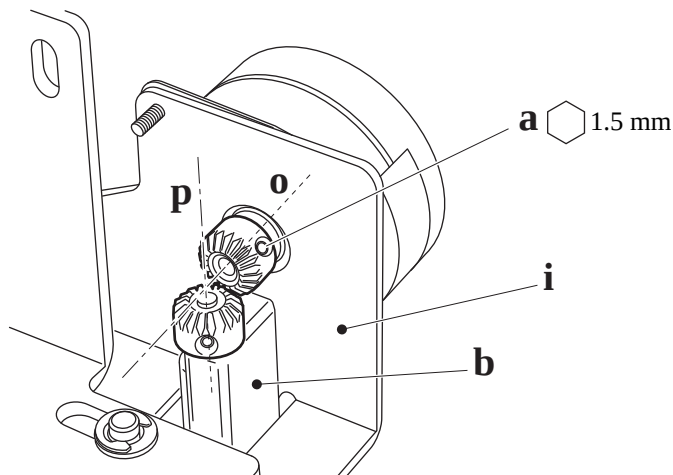
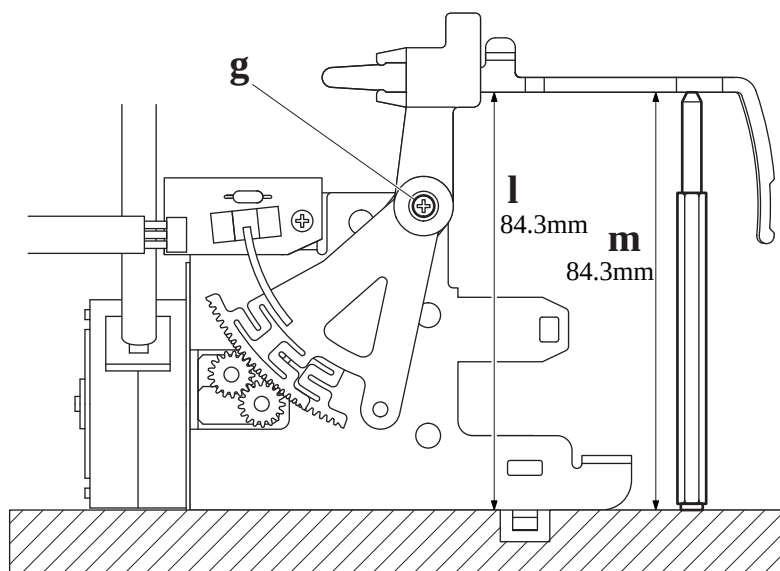
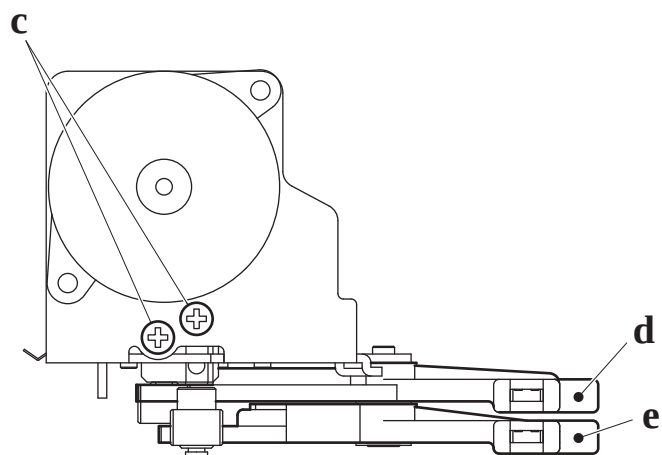

Fig.4
Fig.7
Fig.8
3. Loosen slightly set screws (Fig.4-a) for the miter gear set on the shaft of DECO step motor and make the miter gear idle on the shaft.
6. At the same condition of Article 5, put the unit on the surface plate (Fig.7) and measure the height at the part of "l" and "m" of the both Decorative Thread Guides. After finding same height at the both part as **84.3mm**, then set a miter gear loosened in the article 3, with set screws (Fig.4-a) while slightly touching with the another miter gear. If there is a different height at the "l" and "m", adjust the height with only Blue Decorative Thread Guide (Fig.8-d) and then fix miter gear. After that, remove Yellow Decorative Thread Guide (Fig.8-e) from DECO unit and set it again after securing the same height at the "l" and "m".
9. While power switch on, loosen the set screws (Fig.4-a) for a miter gear on the output- shaft of DECO step motor.
10. Adjust the position of DECO gears for the Blue & Yellow Decorative Thread Guides, so that it may secure the proper position (Fig.2) and be in mesh. Then tighten set screws (Fig.4-a) for miter gear.